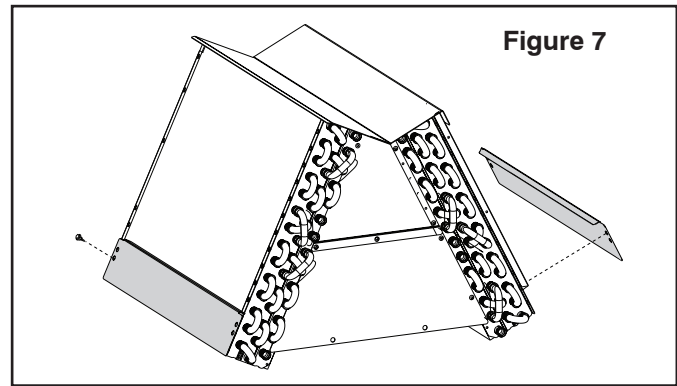

Figure 7
- c. Optional but recommended: On 4TXCC009DS and 4TXCD010DS only, remove the (2) outer water diverter baffles by removing the 5/16" hex head screws. See Figure 7.
- b. Optional but recommended: On 4TXCC009DS and 4TXCD010DS only, remove the (2) outer water diverter baffles by removing the 5/16" hex head screws. See Figure 7.